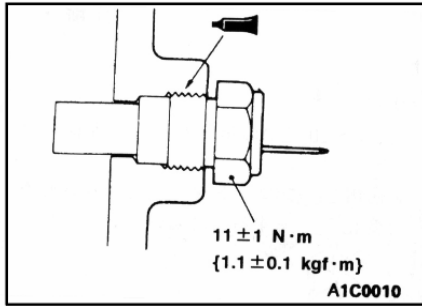

Fig 20-68
- ④ after inspection, apply specified sealant at threads of water temperature gauge unit, and tighten to the specified torque. (as Fig 20-68).
- ⑤ Refill coolant.